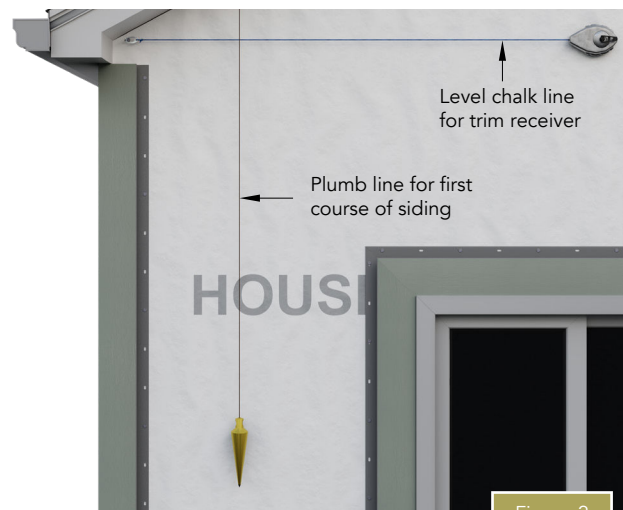

Figure 2
- Install pocketed trim at all inside and outside corners, around all windows and doors, around all protrusions, and at the top termination of the Board & Batten siding. Make sure trim is installed level and plumb. (Figure 2).